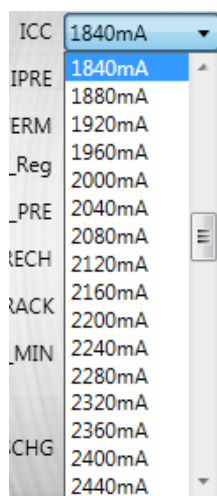

Figure 8: Constant Charge Current Setting
6. Set the constant charge current (see Figure 8). Its range is 320mA to 4520mA, and the default charge current is set at 1840mA. The real charge current is limited as the input current limit setting.